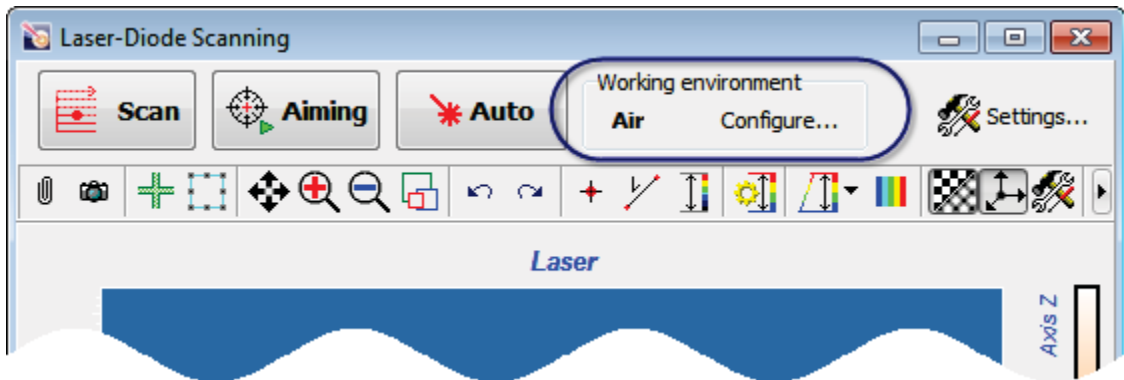

Fig. 6-37. **Laser-Diode Scanning** window for adjusting the detection system
2. Open the window for adjusting the detection system (Fig. 6-37) by clicking the  button in the Control panel of the **Aiming Movers** window.